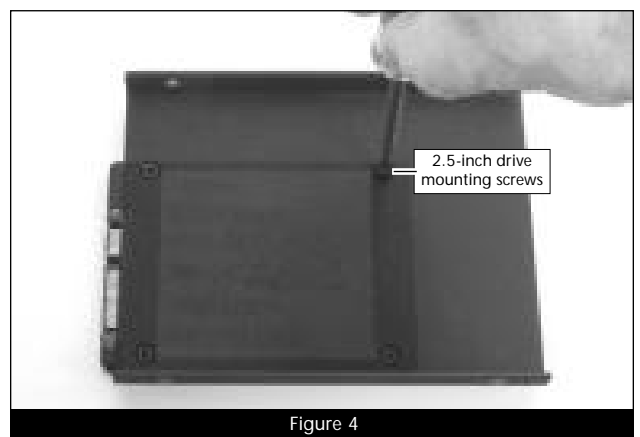

Figure 4
9. Remove a 2.5-inch SSD from its packaging, and then set it down with the bottom label facing up and its connectors facing left (**Figure 4**).
10. Place the 2.5-inch SSD mounting plate on top of the SSD as shown, aligning the holes in the plate with the screw holes in the SSD (**Figure 4**).
11. Using four of the provided 2.5-inch SSD mounting screws, secure the SSD to the mounting plate (**Figure 4**); **do not overtighten the screws**.